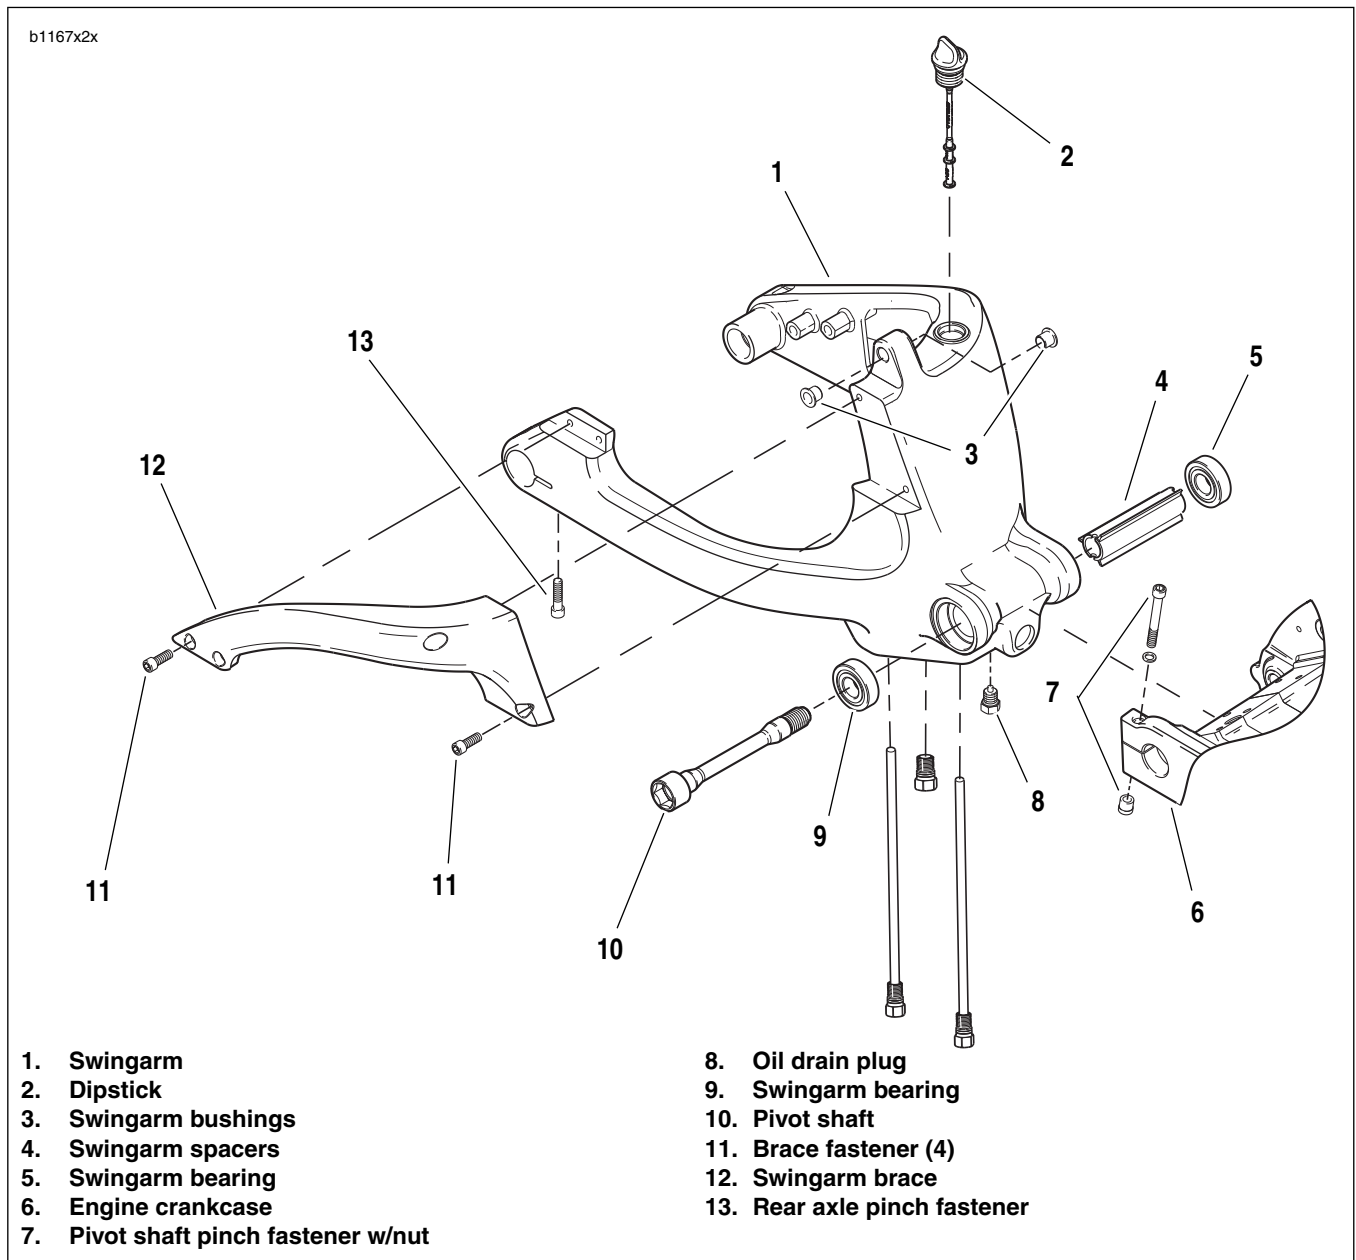

Figure 2-83. Swingarm Assembly
4. See Figure 2-83. Remove swingarm brace mounting fasteners (11, 12).
5. Remove swingarm brace (13).
3. See Figure 2-83. Remove oil drain plug (8) and drain oil from swingarm. See 1.6 ENGINE LUBRICATION SYSTEM.
8. See Figure 2-83. Loosen pivot shaft pinch fastener (7).
2. See Figure 2-83. Remove swingarm bearings (5, 9) using slide hammer (SNAP-ON Part No. CJ1275 or equivalent) and 3/4 in. bearing remover and spacer.
3. Remove shock mount bushings (3) and sleeve.
See Figure 2-83. Remove swingarm bearings (5, 9) only if replacement is required. The complete bearing assembly must be replaced as a unit when replacement is necessary. Do not intermix bearing components.
1. See Figure 2-83. Install **new** shock mount bushings (3).
2. Install **new** bearings (5, 9) and spacer (4) with BEARING INSTALLER (Part No. HD-44060) by lightly seating spacer.
4. See Figure 2-83. Install drain plug (8). Tighten to 29-31 ft-lbs (39-42 Nm).
1. See Figure 2-83. Align swingarm (1) in pivot of engine crankcase (6).
2. Install pivot shaft (10) with a special 7/8 in. hex tool located in tool kit, ANTI-SEIZE and tighten to 24-26 ft-lbs (32-35 Nm).
3. Apply LOCKTITE 272 and tighten pivot shaft pinch fastener (7) to 17-19 ft-lbs (23-26 Nm).
3. See Figure 2-83. Install swingarm brace (12) with swingarm brace mounting fasteners (11) loosely. Do not tighten.
4. Tighten swingarm brace fasteners (11) to 25-27 ft-lbs (34-37 Nm).
6. Tighten rear axle pinch fastener (13) to 40-45 ft-lbs (54-61 Nm).